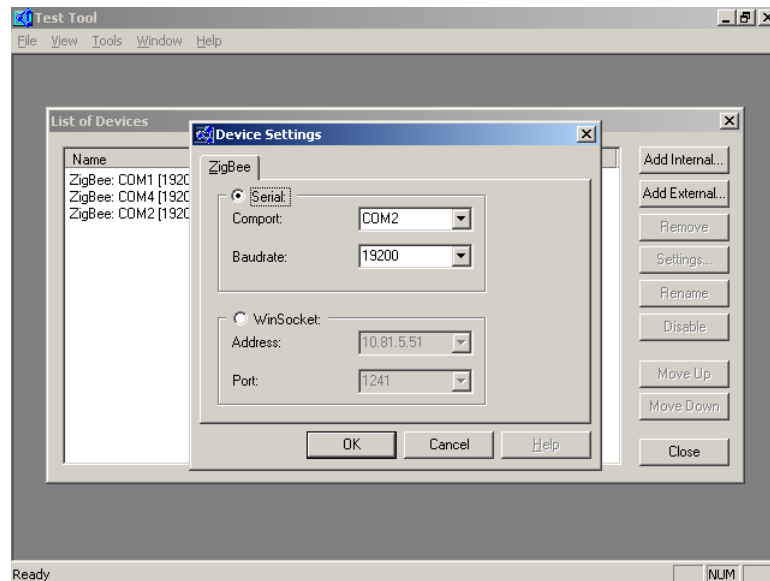

Figure 10 Test Tool Window (List of Devices Screen)
6. As shown in Figure 10, from the “List of Devices” screen, select the “Add Internal” option. In the “Device Settings” screen, click on the “Serial” button, choose the appropriate Com Port and click on the “OK” button. Leave the Baudrate set to 19200.